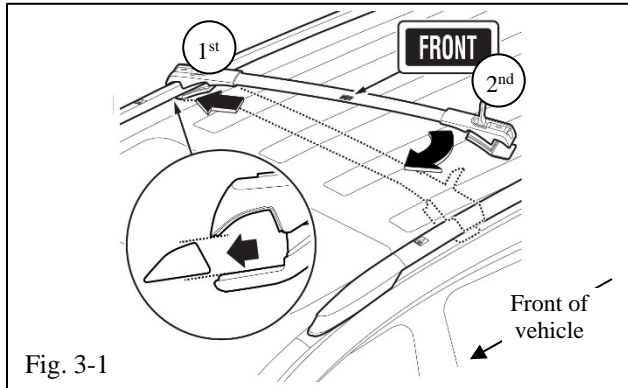

Fig. 3-1
- (a) The front crossbar has a “FRONT” sticker on the center of the bar (Fig. 3-1).
- (b) Install the front crossbar at an angle parallel with the roof surface (Fig. 3-1).
- (1) Slide the 1st support over the side rail.
- (2) Rotate the 2nd support forward over the side rail.